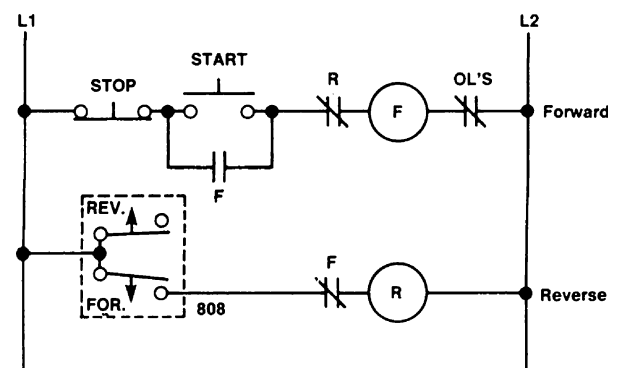

Fig. 10-6 Typical plugging circuit. (Allen-Bradley)
In Fig. 10-6 the control circuit for forward-direction plugging (with lockout protection) is optional. Operation is as follows—pushing the *start* button closes the forward contactor and the motor runs *forward*. The normally-closed contact (F) opens the circuit to the reverse contactor. The *forward* contact on the speed switch closes.